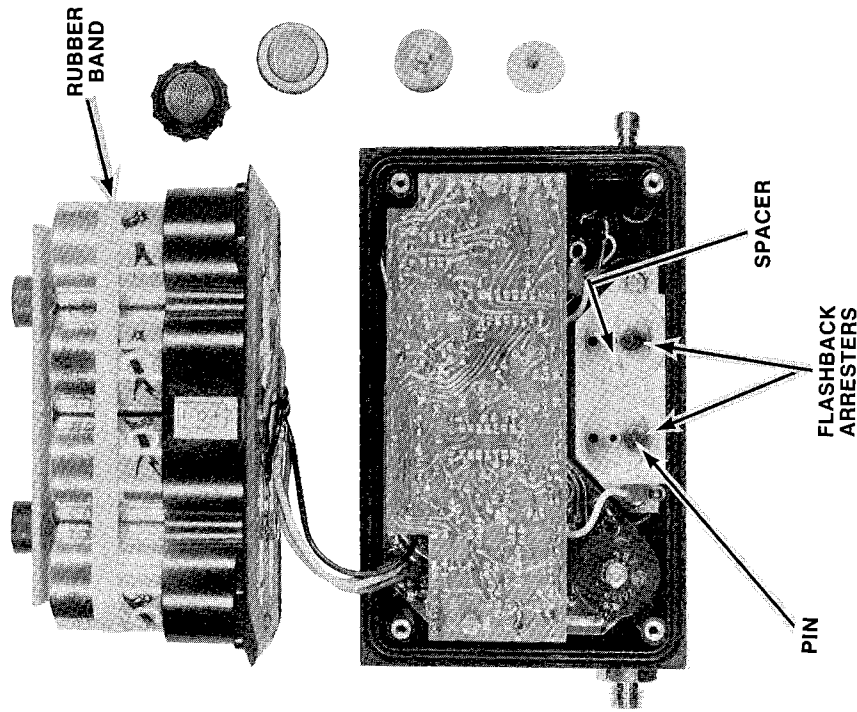

Figure 4-5. Location of Flashback Arresters
9. Remove flashback arrester, Figure 4-5, by grasping pin using long-nose pliers and pulling arrester out of sleeve.
14. Align spacer, Figure 4-5, over center hole and place deflector in well. Insert screw through hole in deflector and spacer. Secure deflector by tightening screws.
3. Remove rubber band, Figure 4-5.